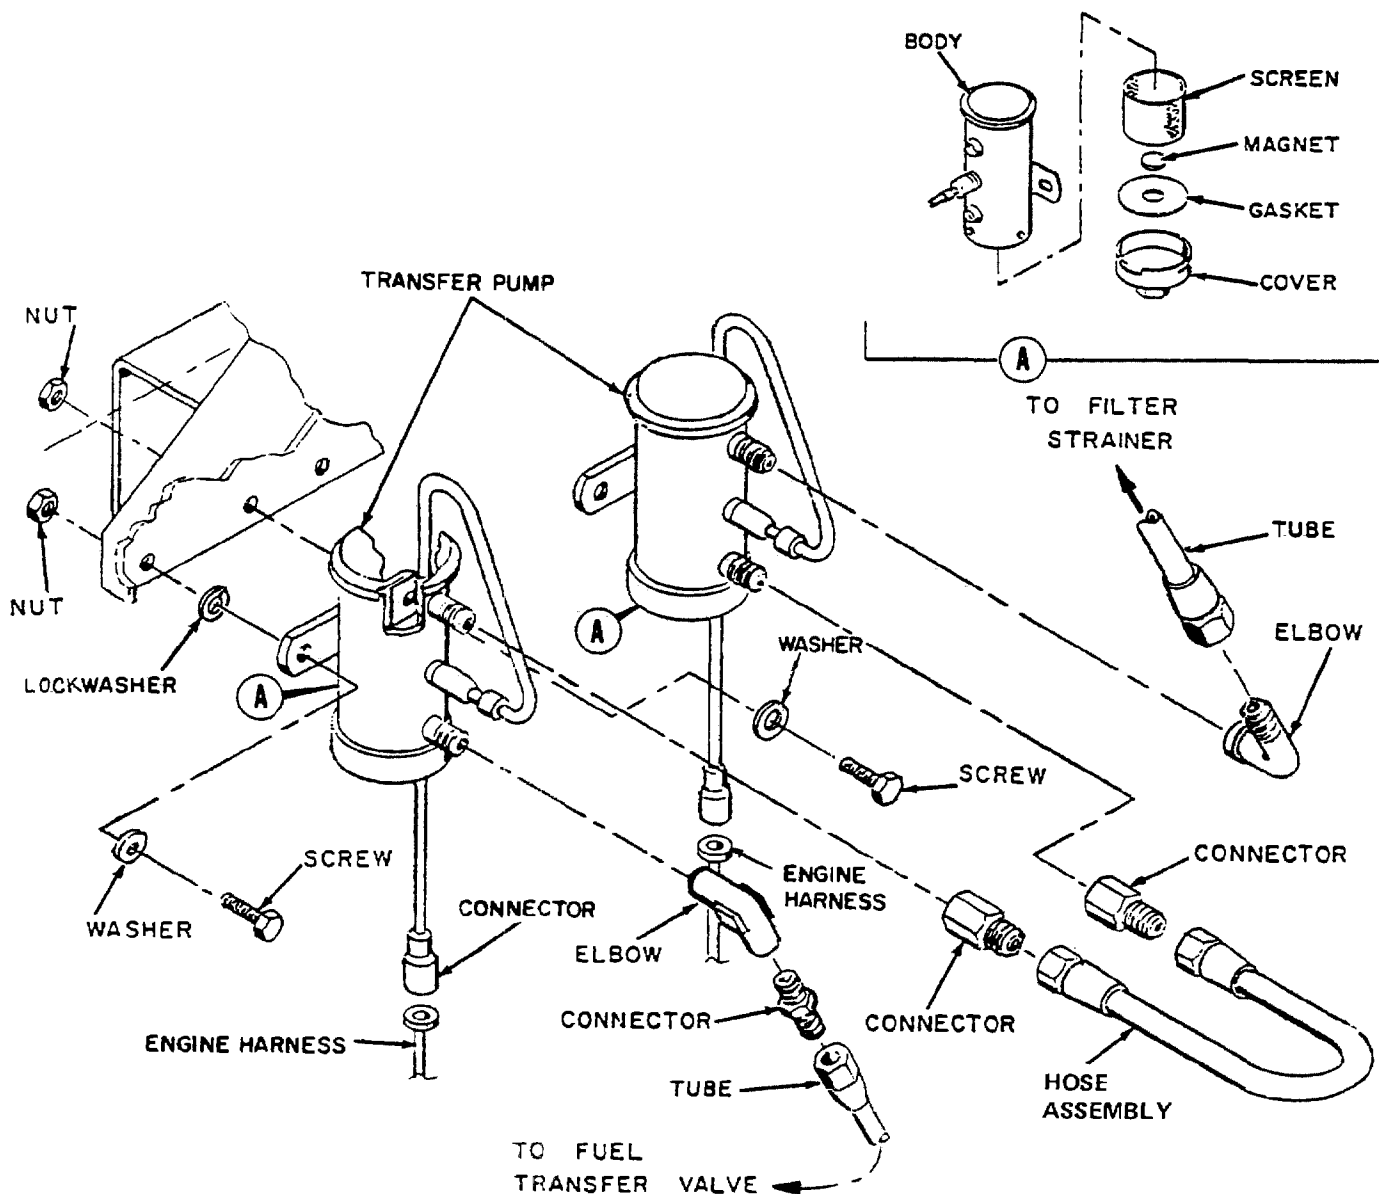

Figure 4-43. Electric Fuel Transfer Pumps, Exploded View
4-84. FUEL TRANSFER PUMPS B2 AND B3 (ELECTRIC). The following paragraphs provide test, service, and replacement procedures for the electric fuel transfer pumps B2 and B3 (figure 4-43).
(1) Twist and remove cover and gasket from pump body (refer to figure 4-43).
(2) Carefully remove screen and magnet from body.
(1) Refer to figure 4-43 and disconnect two electrical connectors from engine harness.
(2) Disconnect elbows, hose assemblies, and connectors from fuel transfer pumps.
(3) Remove fuel transfer pumps by removing two screws, two washers, lockwasher, and two nuts which secure each pump to the mounting bracket.
(4) Install new pumps using two screws, two washers, lockwashers, and two nuts to secure each pump to the mounting bracket.